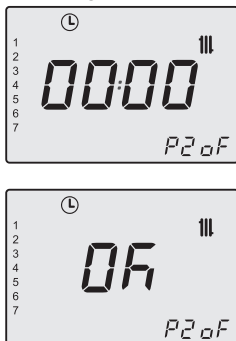

Fig. 2.15
Any unused programmes must be set to 0. Once set to 00:00 confirm with key 18 and the related automatic off time brackets will be set to 00:00 (Fig. 2.15).